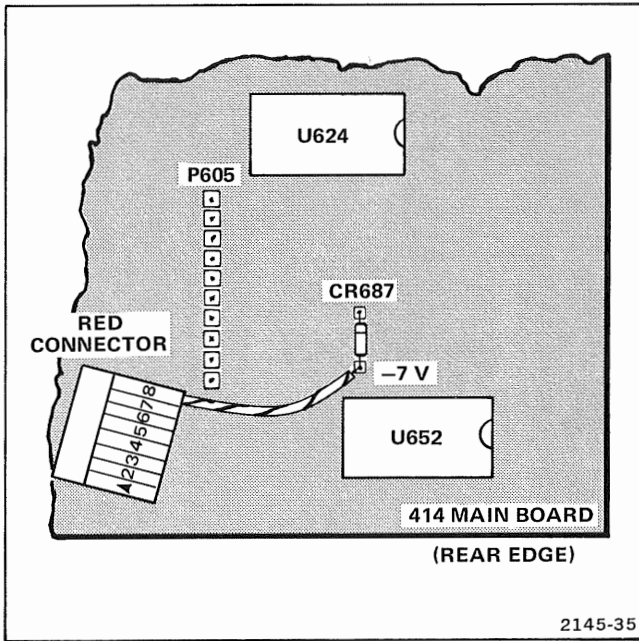

Figure 1-20. Connecting white-red wire to -7 V on 414 Main Board.
9. Connect single wire from 8-conductor red holder to the anode of CR687 as shown in Figure 1-20.